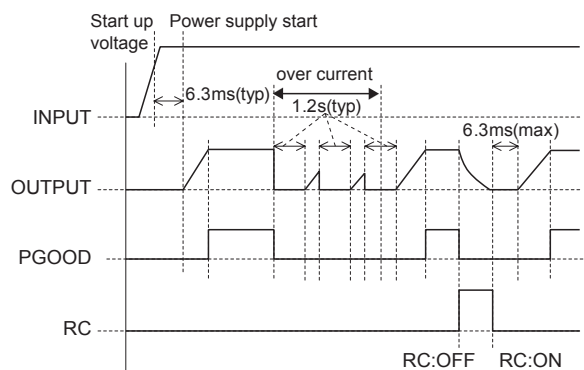

Fig.4.11 Sequence chart of BRFS/BRDS
■ Fig.4.11 is a sequence chart of each function of BRFS/BRDS.